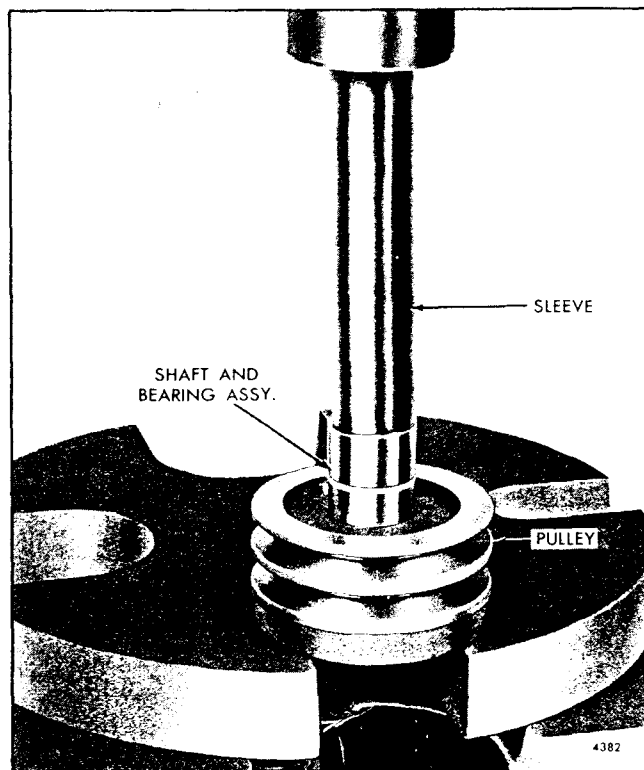

Fig. 3 - Installing Shaft and Bearing Assembly in Idler Pulley
1. Apply a minimum of 2500 lbs pressure only on the outer race of the bearing as shown in Fig. 3 and press the bearing and shaft assembly into the idler pulley until the outer race of the bearing is flush with the inside surface of the pulley.